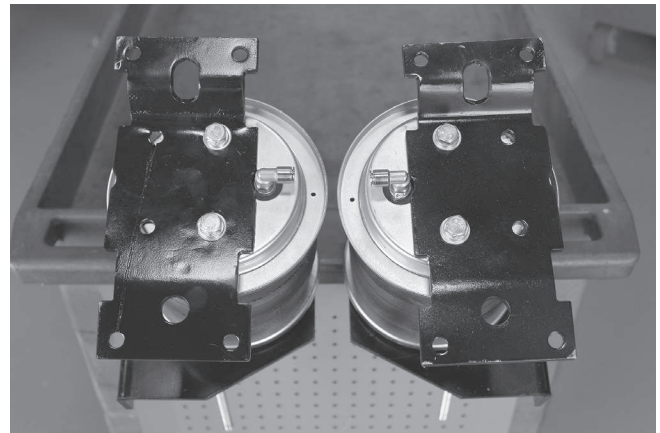

Fig. 15
- Figure 15 shows the driver's (left) side and passenger's (right) side assemblies.